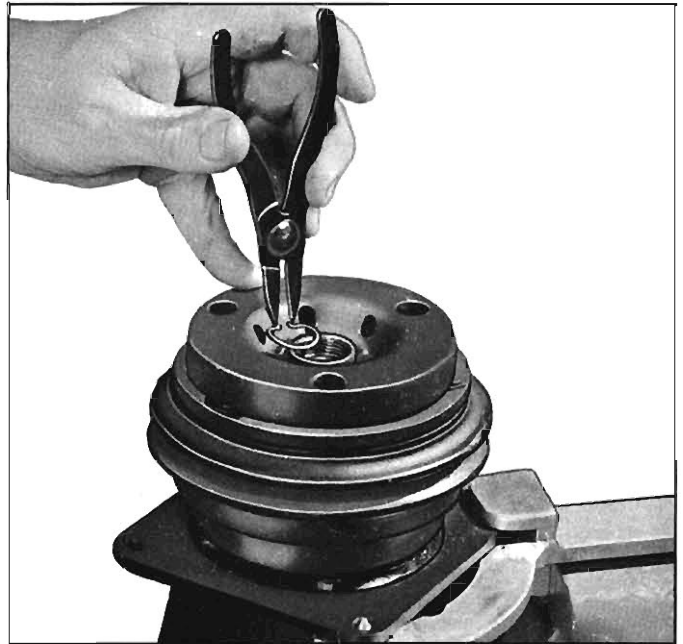

Fig. 11-35—Removing Pulley and Bearing Assembly Retainer Ring
2. Using snap ring pliers J-6435, remove the pulley and bearing retainer ring (fig. 11-35).